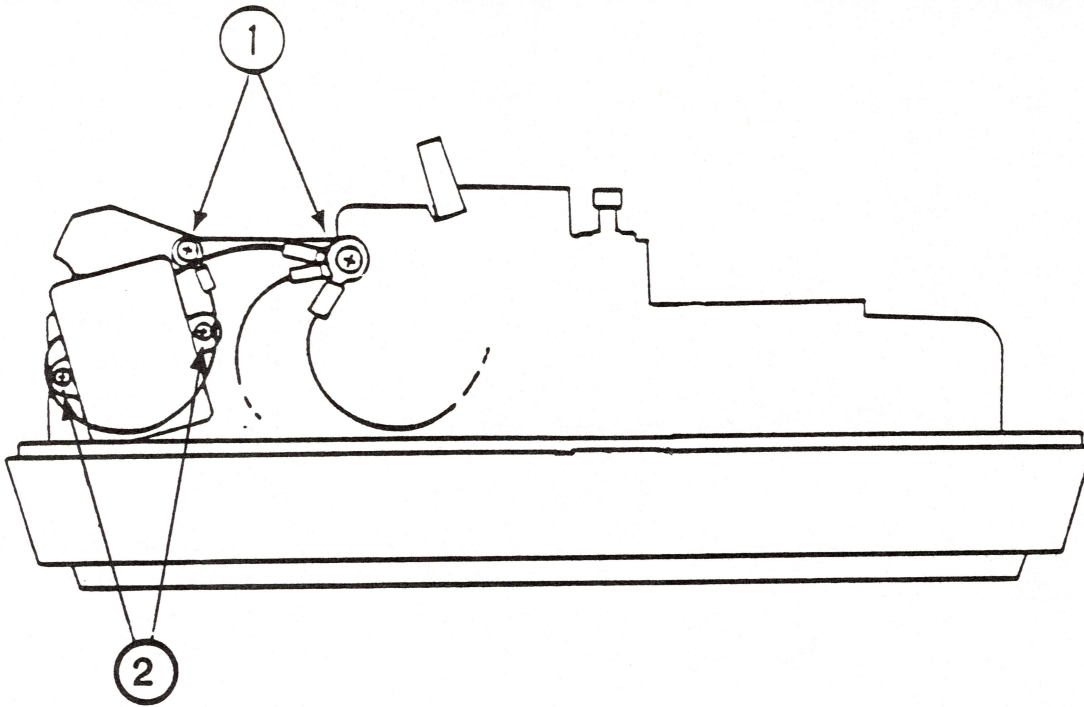

FIGURE 1
4. Remove the screw and washers holding ground straps to the side frame (see Figure 1, #1).
5. Remove the two screws from the noise filter (see Figure 1, #2).